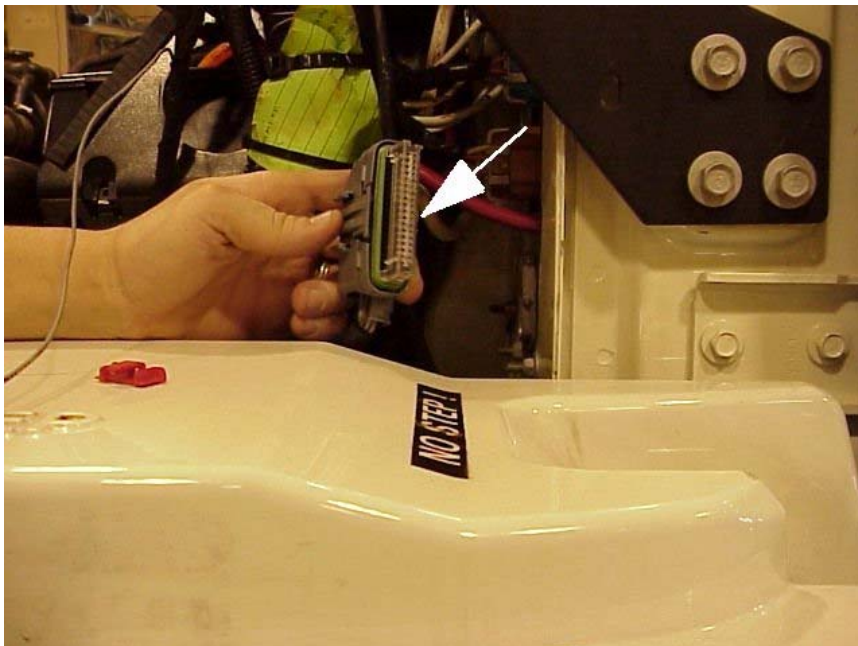

Figure 6 Remove ESC Connector (Arrow)
6. Locate and remove the ESC connector 4004 (Figure 6).